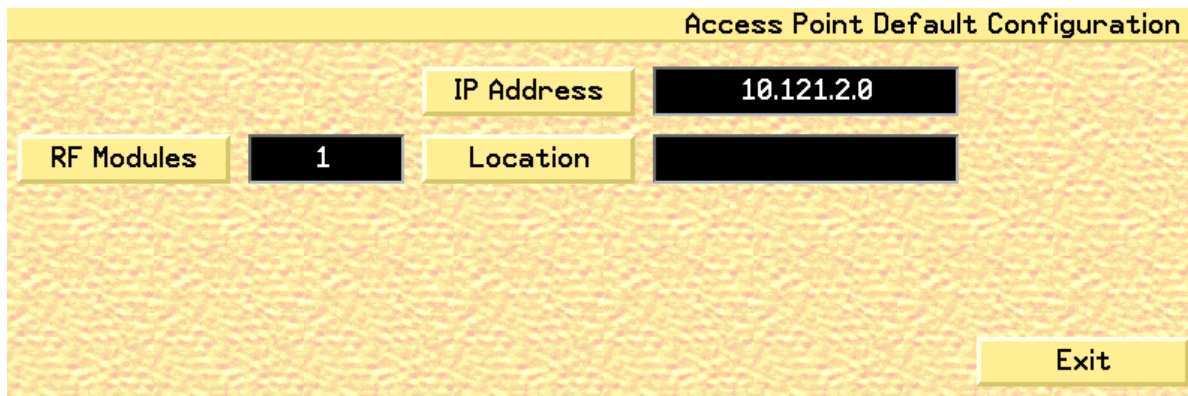

Fig. 75. Access Point Default Configuration Screen
2. Click the **Set AP Defaults** button to open the Access Point Default Configuration screen (fig. 75).